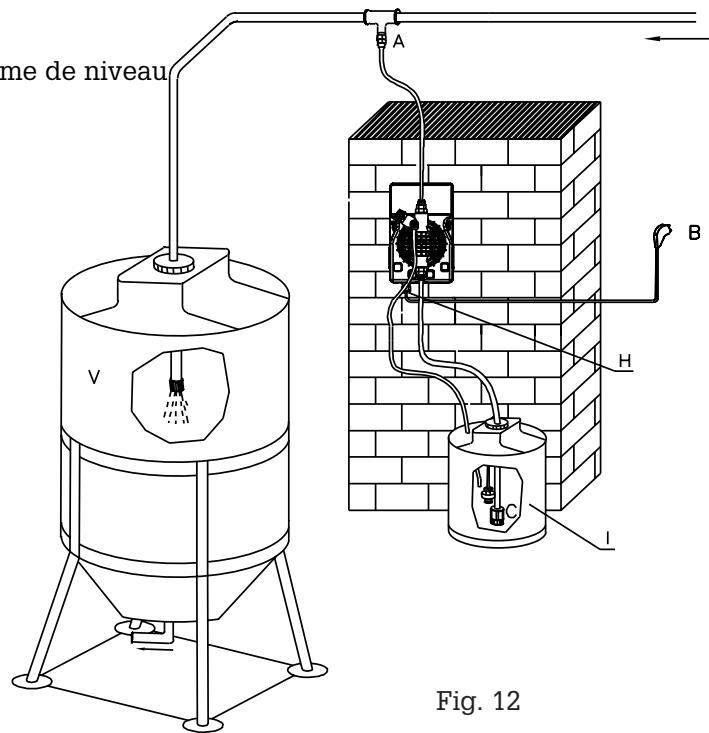

Fig. 12
6.2 - SCHEMA D'UNE INSTALLATION TYPE (Fig. 12)